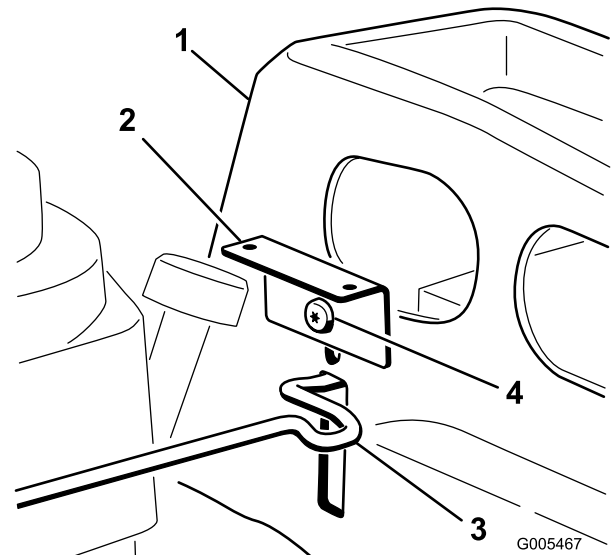

Figure 5
- Install the other bracket on the left side pod at the upper hole as done previously. Secure all parts with a shoulder screw (Figure 5).